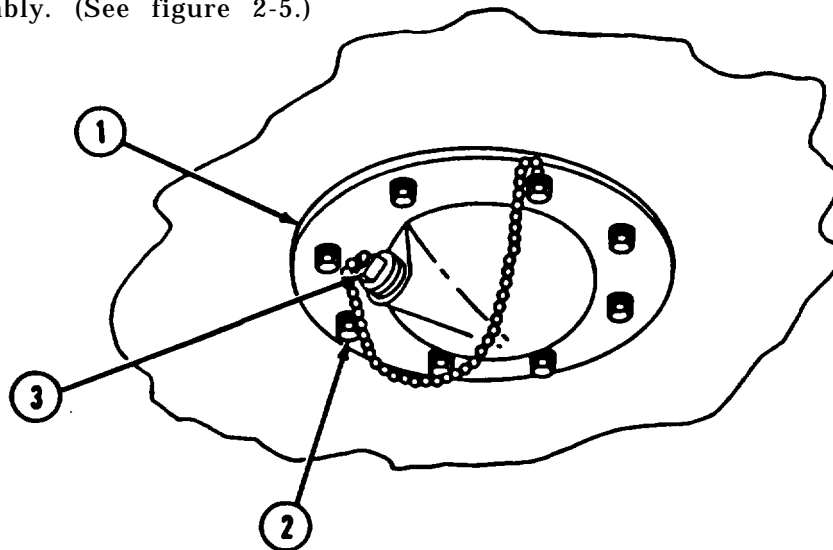

Figure 2-5. Installed Drain Plug
2-5.4 Remove of Drain Assembly Plug and Installation of Drain Hose Assembly. (See figure 2-5.)
- a. Fold tank to expose drain fitting (1). (See figure 2-5.)
- (1) Torque screws (2) on cover plate to 30 in-lb (3.41 N·m).
- (2) Remove drain plug (3).